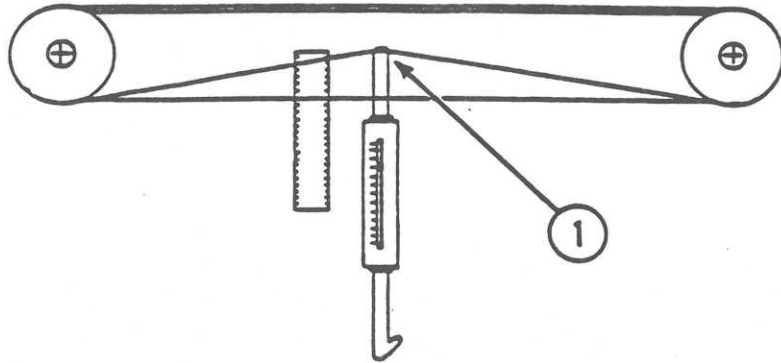

FIGURE 27
21. With the carriage assembly at the far left, push the carrier wire at its center with a tension gauge. (See Figure 27, #1.)